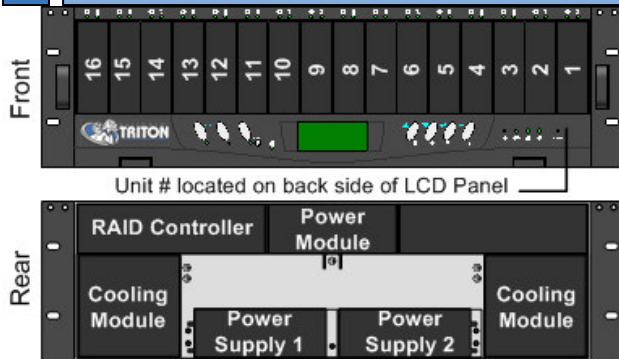

Figure 3—Module Locations and Drive Bays
The SurfRAID TRITON16i+ Storage System supports up to sixteen (16) SATA disk drives per enclosure. Refer to Figure 3 for slot locations.
Important: If your SurfRAID TRITON Storage System was Pre-Configured the disk drives will be labeled with a slot number and unit number. The disks must go in the correct unit and in their correct slots. See Figure 3. and Pre-Configuration paperwork that shipped with your RAID system.
Before powering on the SurfRAID TRITON16i+ system, please ensure that all modules are firmly seated in their correct bays (See Figure 3)